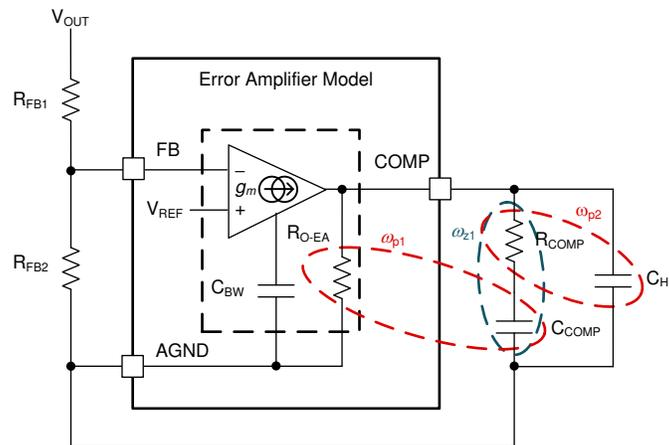

图 9-3. Error Amplifier and Compensation Network
图 9-3 shows a type-II compensator using a transconductance error amplifier (EA). The dominant pole of the EA open-loop gain is set by the EA output resistance, R_{O-EA} , and effective bandwidth-limiting capacitance, C_{BW} , as shown by 式 26.